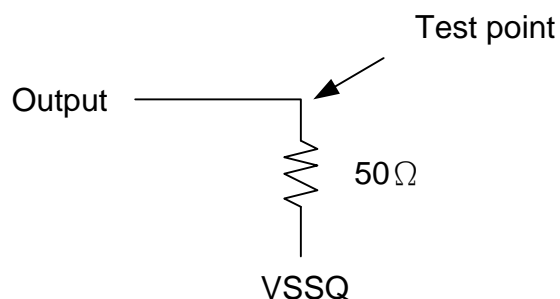

Figure 1: Pullup slew rate test load
a. Pullup slew rate is characterized under the test conditions as shown in Figure 1.